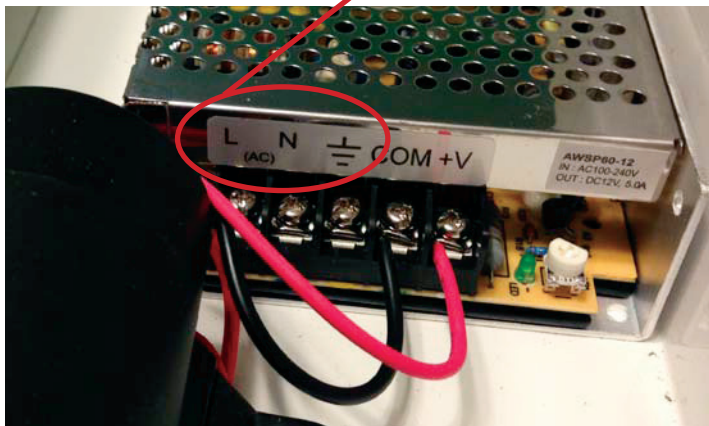

Figure 3: Geo-Booster power wiring
4. Wire the power supply using 120VAC or 230VAC single phase power following all applicable local codes (see Figure 3). The power supply can be wired in series with a power disconnect switch located adjacent to the unit if desired. Another option is to wire the power supply using the same contacts in the heat pump used for the circulator pumps. This method ensures that the Geo-Booster will only operate when the heat pump runs. The installer must verify that the heat pump's circuit breaker can handle the load.
4. Wire the power supply using 120VAC or 230VAC single phase power following all applicable local codes (see Figure 3). The power supply can be wired in series with a power disconnect switch located adjacent to the unit if desired. Another option is to wire the power supply using the same contacts in the heat pump used for the circulator pumps. This method ensures that the